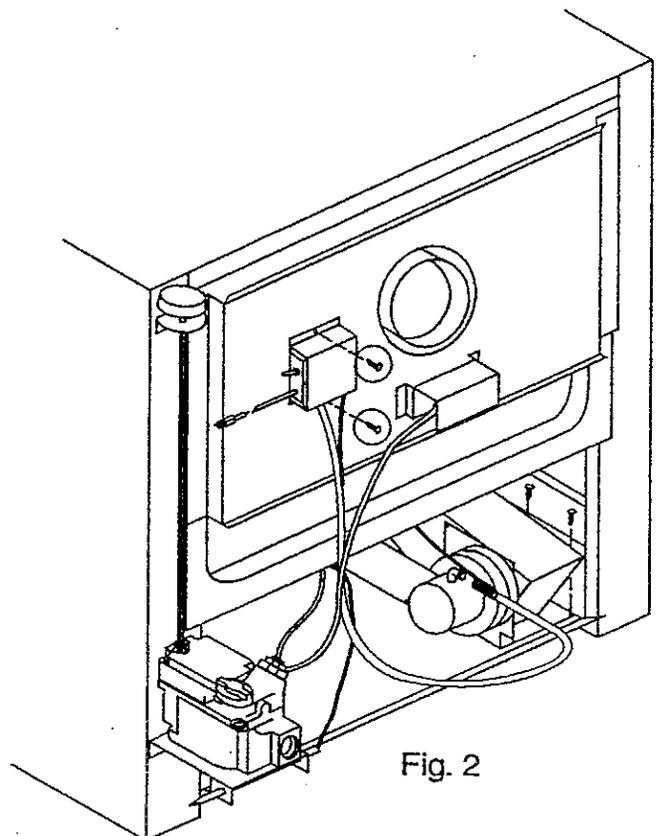

Fig. 2
2. Align top duct with holes in blower housing and attach with 2 sheet metal screws. See Fig. 2.